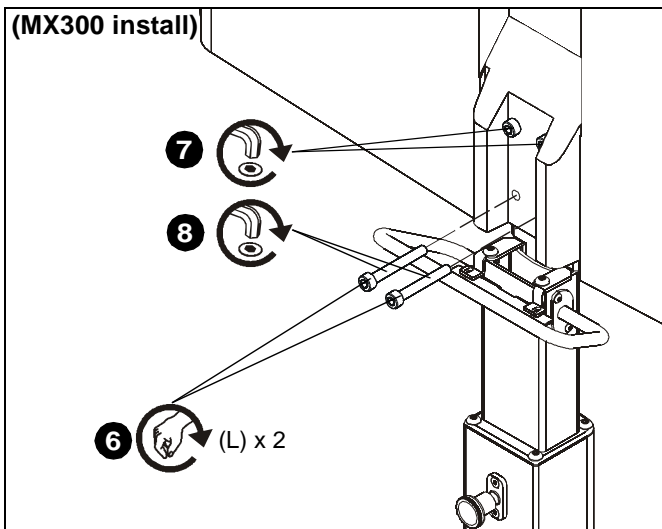

Figure 10
- Hand tighten two M6x50mm socket head cap screws (K) into top two holes on display and interface plate. (See Figure 10)
- Hand tighten two M6x60mm socket head cap screws (L) into lower two holes on display and interface plate. (See Figure 10)
- Tighten top two screws (K). (See Figure 10)
- Tighten bottom two screws (L) while holding display in a vertical position. (See Figure 10)